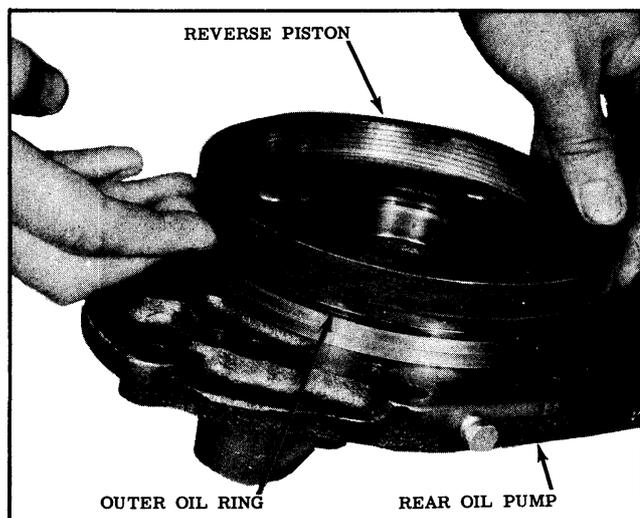

Fig. 3-110 Installing Reverse Piston
4. Position the reverse piston over the dowels in rear pump and compress the large oil ring to allow the piston to enter the pump cavity. (See Fig. 3-110)